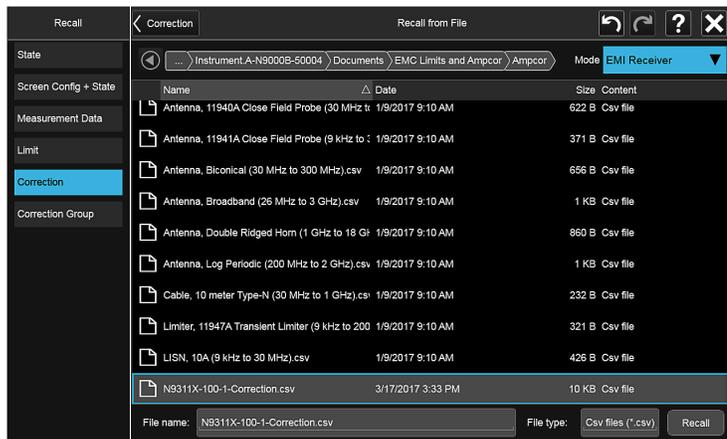

Figure 7. Conducted ambient emissions
4. Correct for the LISN and the transient limiter which is used to protect the input mixer. The correction factors for the LISN and transient limiter are usually stored in the signal analyzer and they can be easily recalled. View the ambient emissions (with the DUT off). If emissions above the limit are noted, the power cord between the LISN and the DUT may be acting as an antenna. Shorten the power cord to reduce the response to ambient signals (See Figure 7).